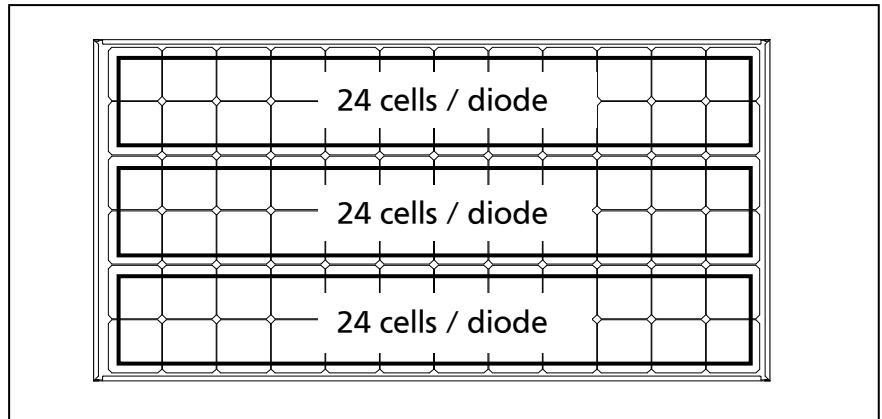

Figure 4: Number of series cells per bypass diode
- Specifications of bypass diode for VBHNxxxSJ series are as follows; Number of bypass diode: 3 diodes, Number of series cells per bypass diode: 24 cells / diode (See Figure 4).